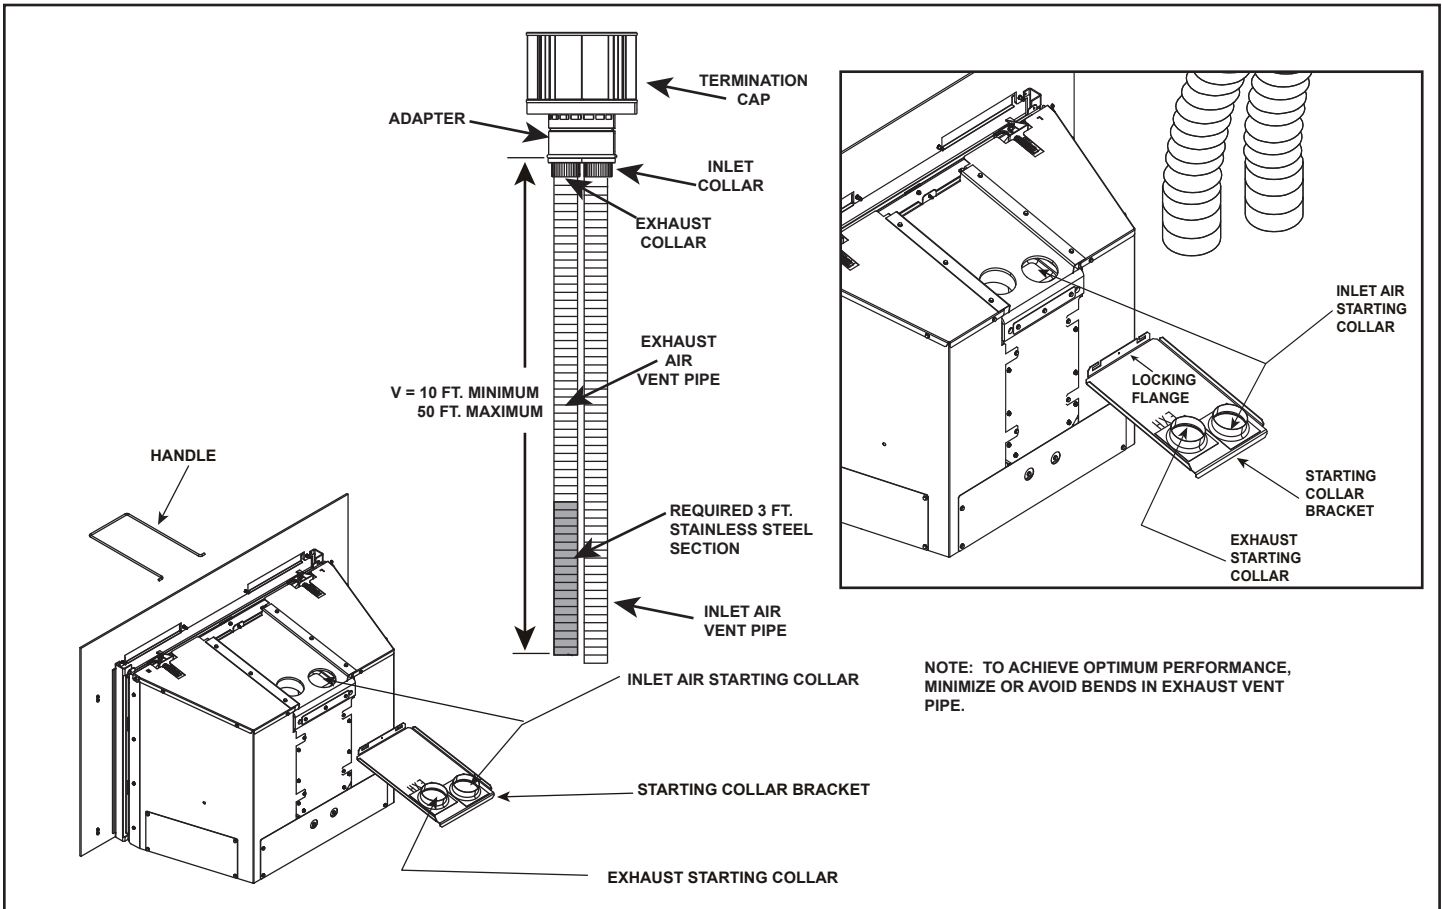

Figure 7.1
- Secure the exhaust flexible vent pipe to the 3 ft. section stainless steel flexible vent pipe using the factory-installed 3 in. collar in the stainless steel section of pipe (see Figure 7.1).
- Use 3 screws to attach the section of inlet air vent to the inlet collar on the collar slide plate. See Figure 7.1. NOTE: The collar slide plate may be removed from appliance to aid installation.
- Secure collar slide plate to appliance by placing locking handle into position with locking tabs (see Figure 7.1) and secure with #8 screw.